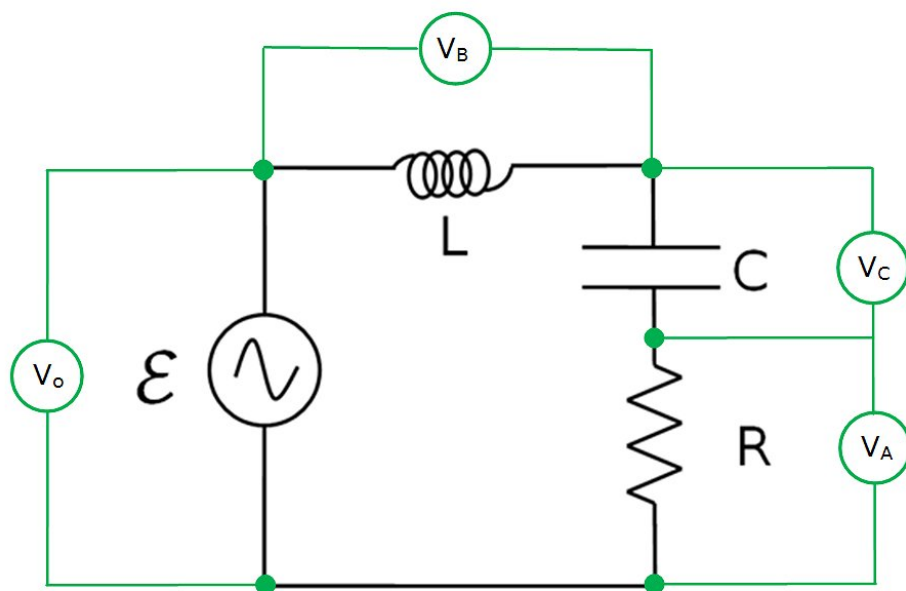

Figure 4: Circuit Diagram with Voltage Sensors
1. Construct the circuit shown at right using the following values (see Figure 4):
Connect to Output #2 on the 850 Universal Interface using the BNC to banana cord. Note that it is important to connect the left hand side of the inductor to the right hand side of the capacitor and the left hand side of the capacitor to the right hand side of the resistor as shown. A voltage sensor is connected to the D analog input on the 850 Universal Interface and connected so that it measures the total voltage ($V_D = V_o$) as shown in Figure 4.